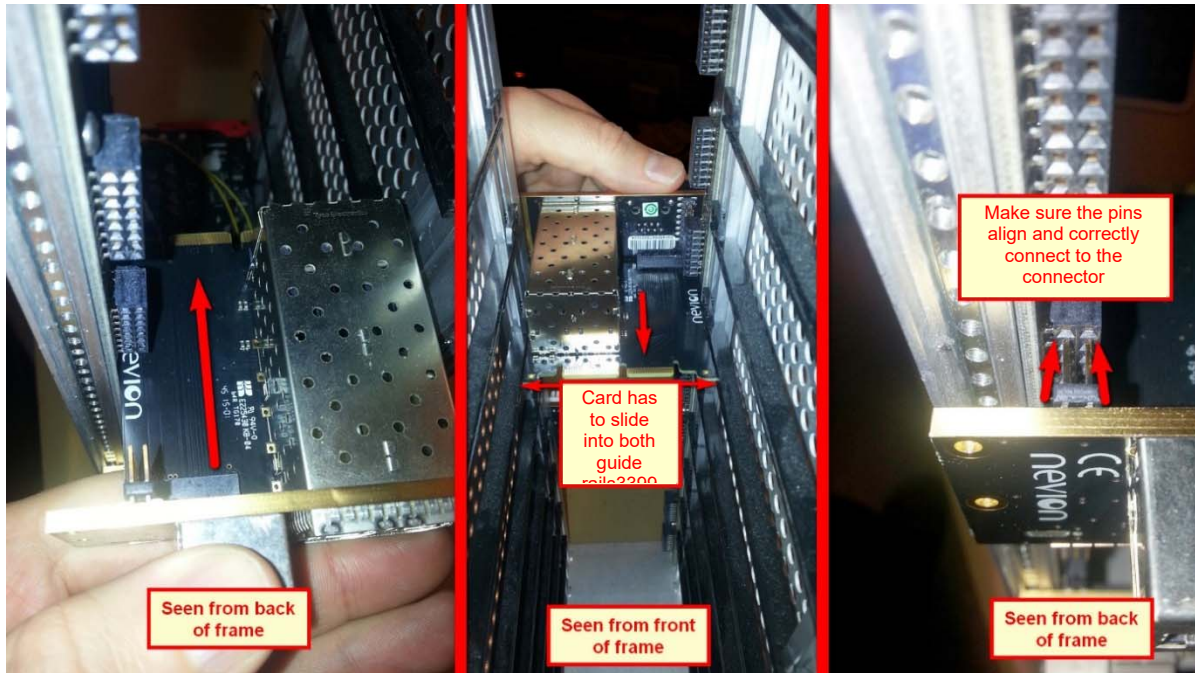

Figure 16: Instalment from the back of the frame (Remark: Picture of CONV-SFP-4, but the procedure is equal).
2. Slide the assembled modules into the back of the frame while making sure the C1 board slides correctly into the frame's guide rail. Make sure the pins align and correctly connects to the power bus connector as seen in Figure 16.